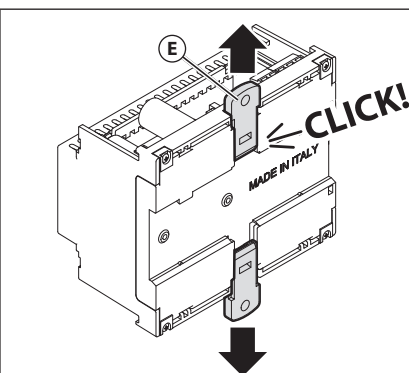

Fig. 4
2. Open both fixing clips **E** (Fig. 4)